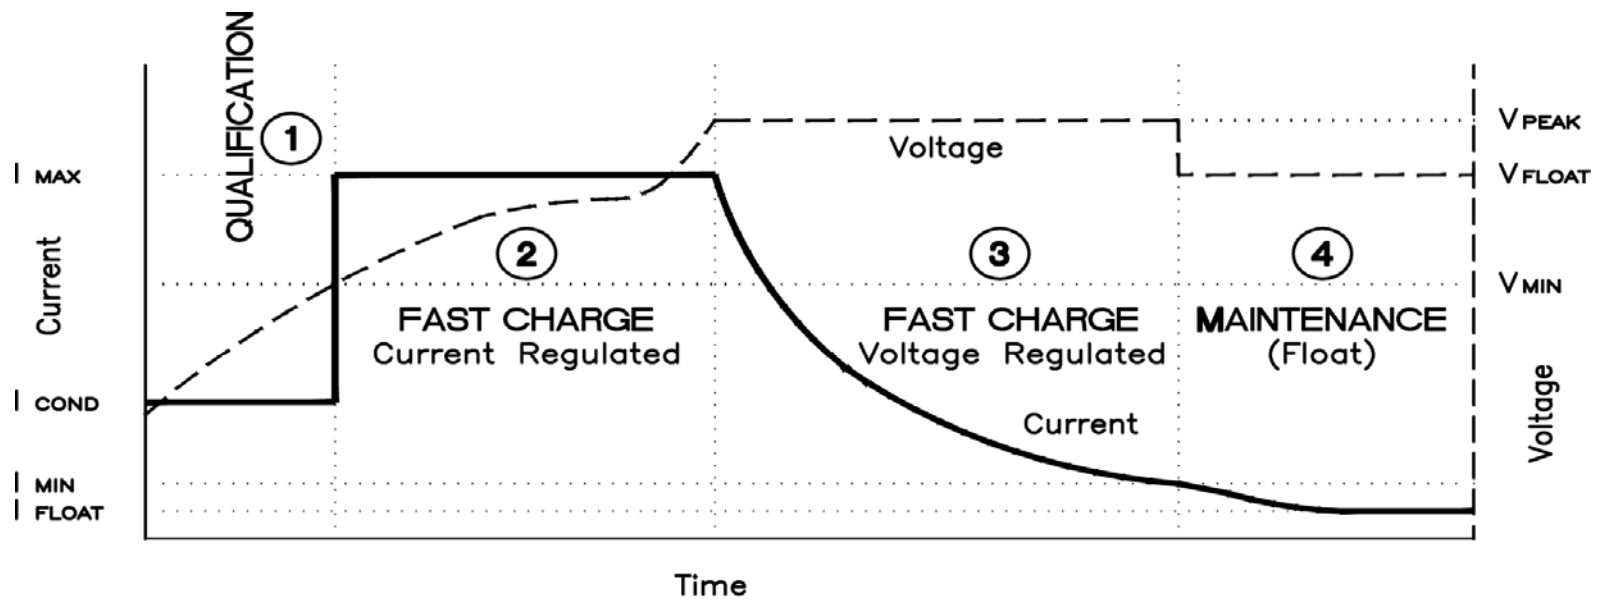

figure 1
Step 1: Qualification Stage: (Figure 1)
Step 2: Fast Charge, Constant Current Regulated: (Figure 1)
Step 3: Fast Charge, Constant Voltage Regulated: (Figure 1)
Step 4: Maintenance or Float Charge: (Figure 1)